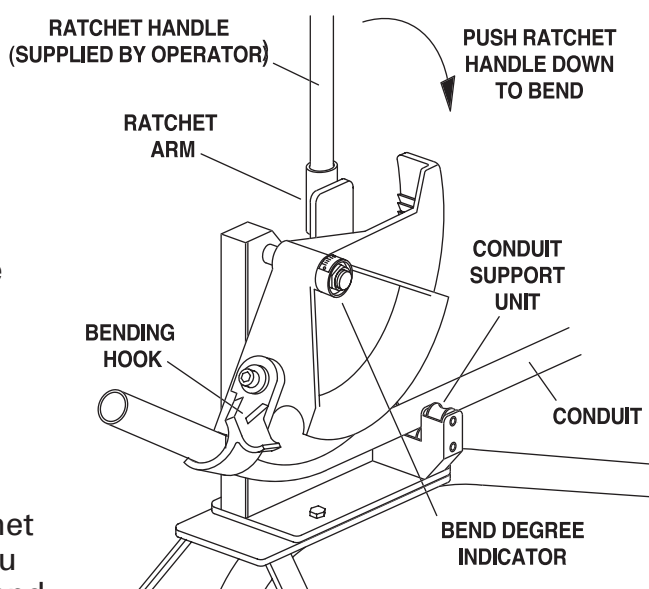

Figure 1
1. Cut a 5' length of 1" RIGID conduit and insert it into the ratchet arm as shown in Figure 1. This will serve as the ratchet handle.